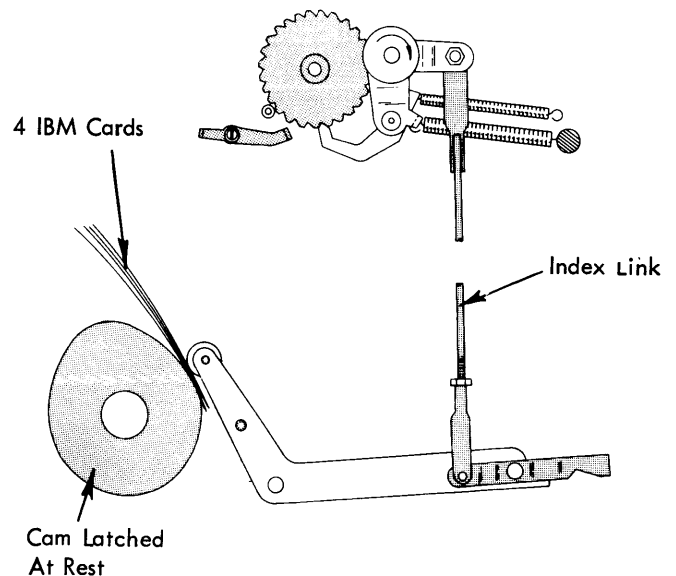

FIGURE 156. *Index Link Adjustment*
- b. With the index selection lever in the single line space position, adjust the index link so that the index pawl bottoms in the ratchet against a tooth after .030" rise on the index cam (Fig. 156). Half-turn adjustments may be made by disconnecting and turning the link at the top.
The cam rise may be simulated by leaving the cam latched in the rest position and placing four strips of IBM card stock between the cam and the cam follower (Fig. 156).